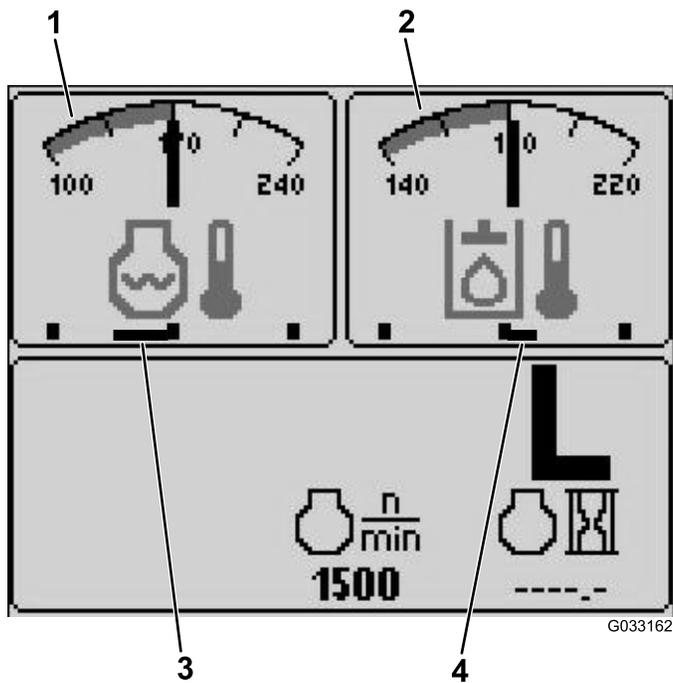

Figure 18
- Hydraulic-fluid-temperature and fan indicator—top, right screen (Figure 18)
Note: In example Figure 18, the hydraulic-fluid-cooling fans are running at 25% speed in the forward direction.
- Engine-coolant-temperature and fan indicator—top, left screen (Figure 18)
Note: In example Figure 18, the engine-coolant fans are running at 50% speed in the reverse direction.
Fan direction is also indicated on the engine-coolant-temperature screen and the hydraulic-fluid-temperature screen. If the bar is to the right of the midpoint hash mark, the fans are running in the forward direction. If the bar is to the left of the midpoint hash mark, the fans are running in the reverse direction (Figure 18).
This display indicates the hydraulic-fluid temperature and the status of the cooling fan (Figure 18).
This display indicates the engine-coolant temperature and the status of the cooling fan (Figure 18).